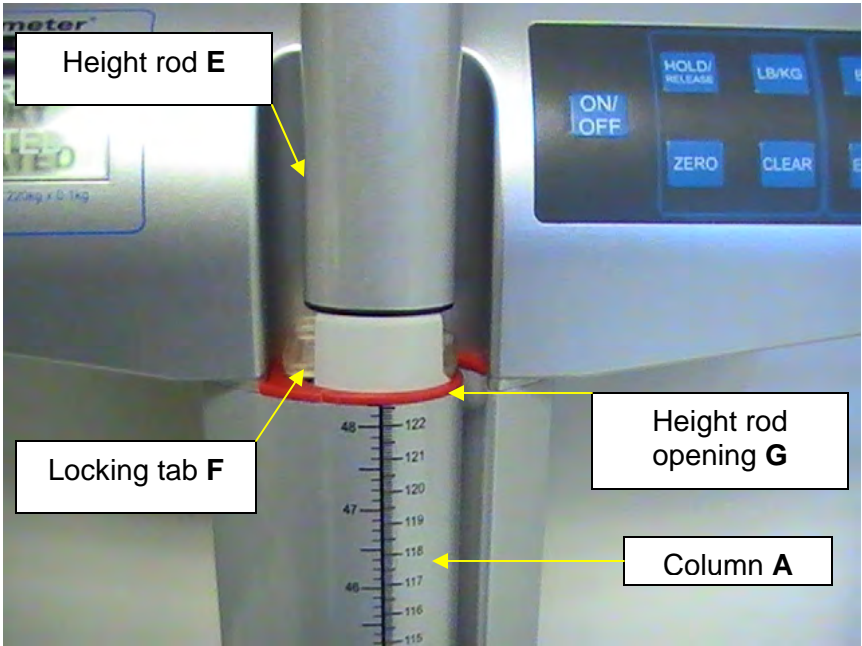

**Figure 8**
11. Align the upper height rod **D** with the lower height rod **E**. Snap the locking tab into place. Ensure locking tab is securely locked (see Figures 8 & 9).